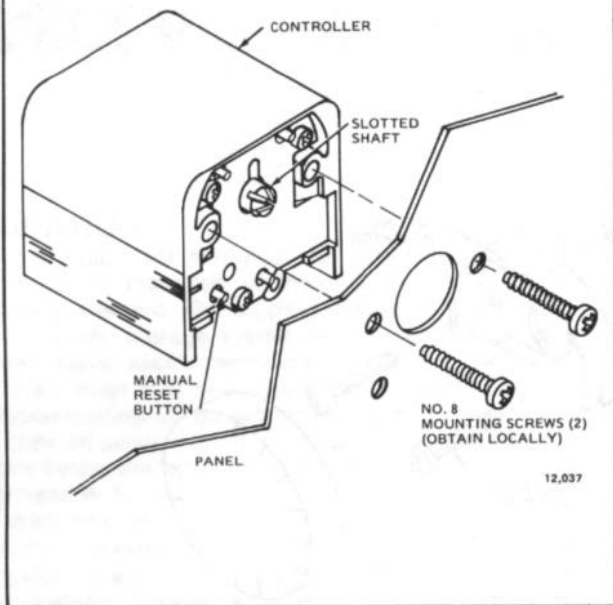

FIG. 6—DRILL HOLES IN THE PANEL AS SHOWN.
1. Mark and drill three holes in the panel, using the template in Fig. 6 as a guide.
4. Hold controller against back of panel with terminals pointed down and fasten with two No. 8 sheet-metal screws (not supplied). See Fig. 6.